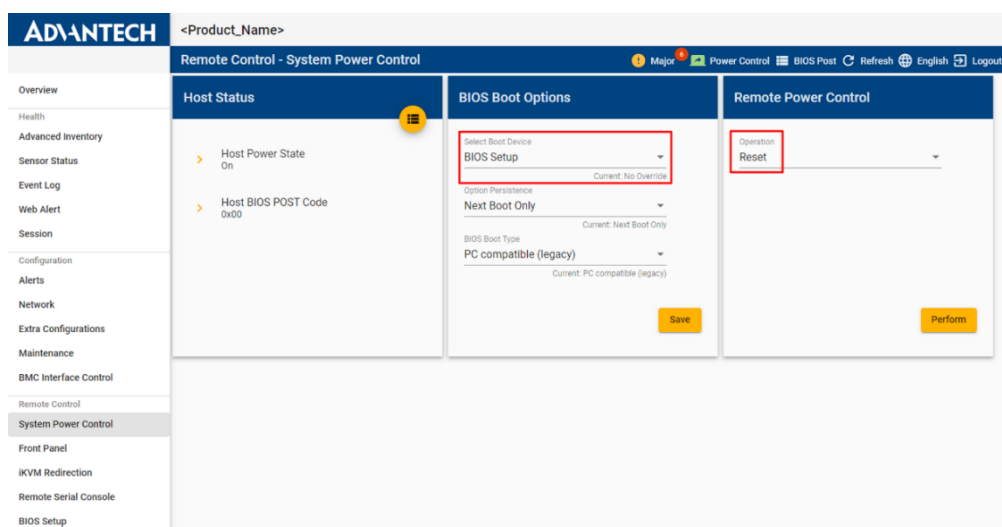
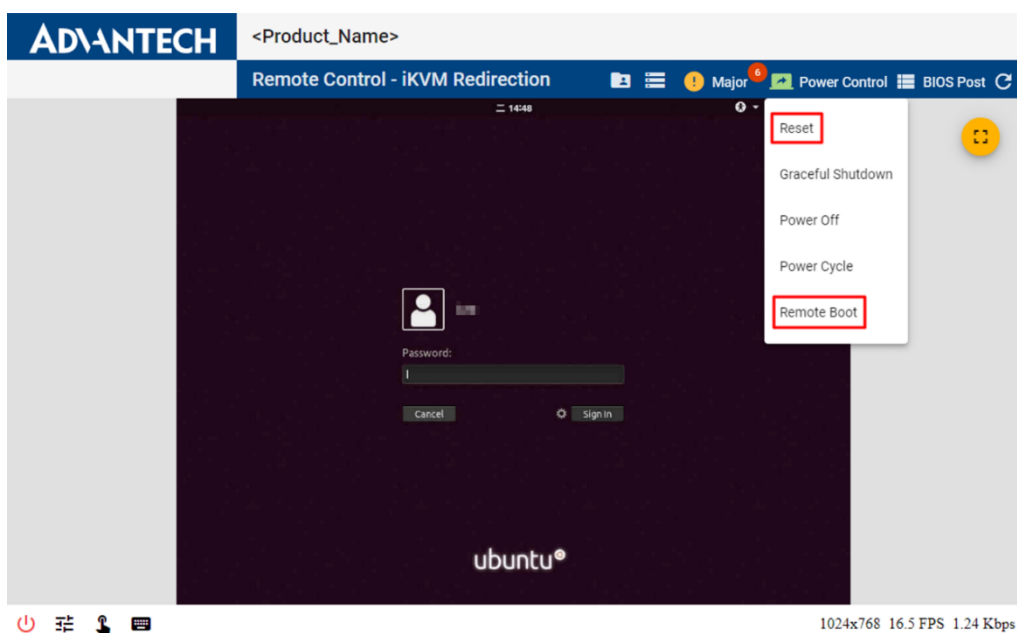

Figure 104: Restarting x86 Payload and Entering BIOS Setup Menu
Figure 105: Restarting x86 Payload from Tool Bar and Entering BIOS Setup Menu
3. Select **BIOS Boot Options** and reset x86 system as in 3.5.1 **System Power Control** page as Figure 104 or the power icon  in Tool bar at the right-topside of the web interface as in Figure 105. **Remote Boot** will boot from remote storage.